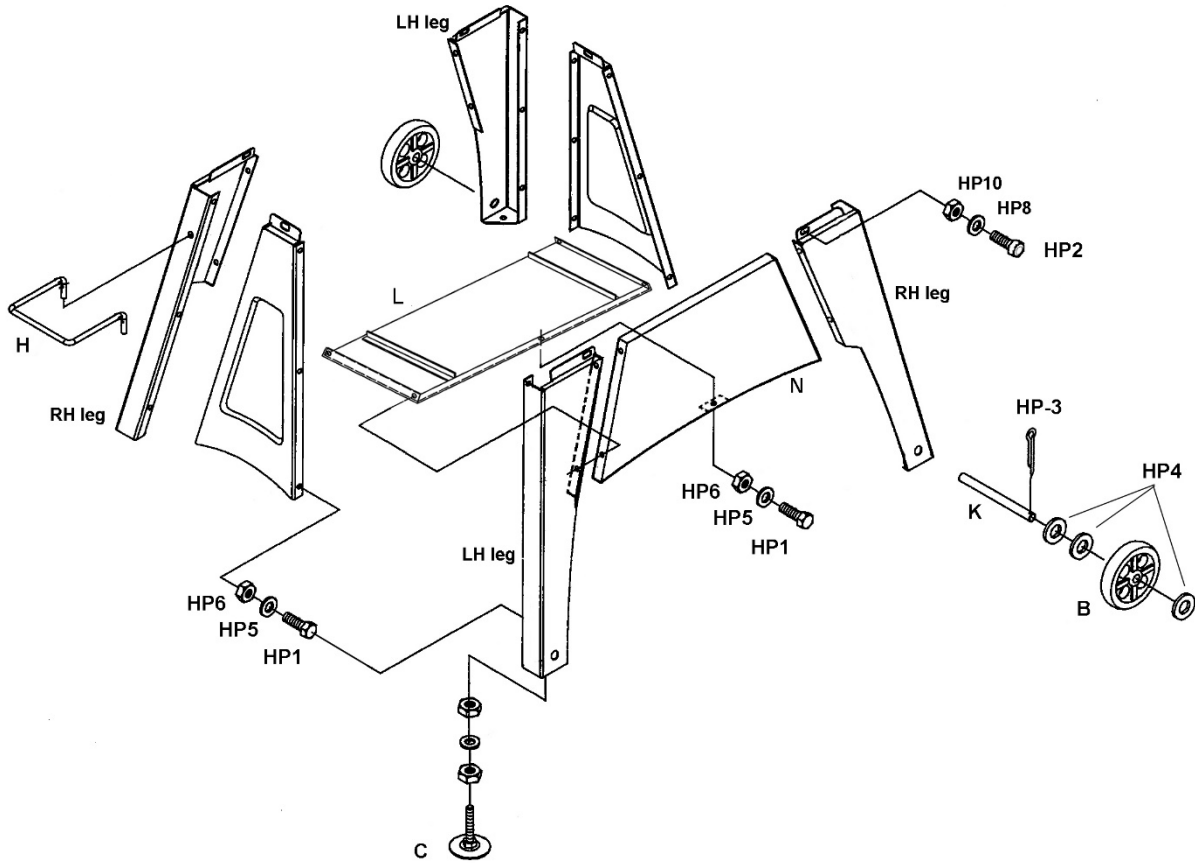

Figure 3
Refer to Figure 3.
1. Assemble legs, cross braces, front panel and shelf, as shown in Figure 3. The braces on the shelf will face upward as shown.
2. Install handle (H) into end of assembled stand.
4. Install adjustable feet (C) at opposite end of stand and adjust until stand is level.
1. With help from another person, position saw atop stand, and secure with socket head cap screws and washers (HP2/5/6, Figure 3).